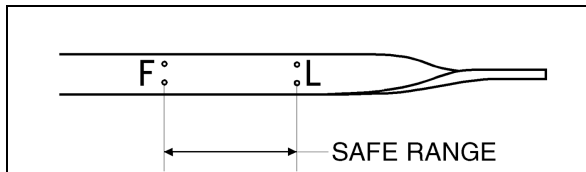

FIGURE 12: ENGINE OIL LEVEL DIPSTICK 01027
Check the oil level daily with the engine stopped. If the engine has just been stopped and is warm, wait at least 10 minutes to allow the oil to drain back to the oil pan before checking. Wipe the dipstick clean then check oil level. The level should always be within the safe range on the dipstick (Fig. 12). Add the proper grade of oil to maintain the correct level on the dipstick. All diesel engines are designed to consume some oil, so a periodic addition of oil is normal.
8. Remove the engine-oil filler cap and pour oil in the engine until it reaches the "FULL" mark on the dipstick (Fig. 12).
10. Add oil as required to bring the level within the safe range on the dipstick (Fig. 12).